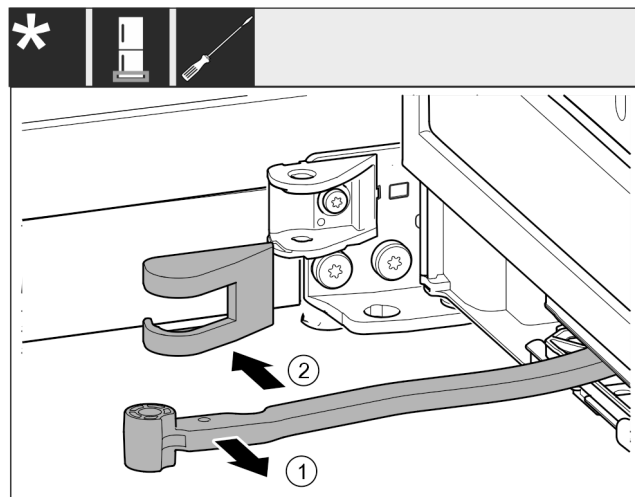

Fig. 17
- ▶ Turn the joint Fig. 17 (1) towards the door.
- ▶ Remove the swap bearing block cover Fig. 17 (2).